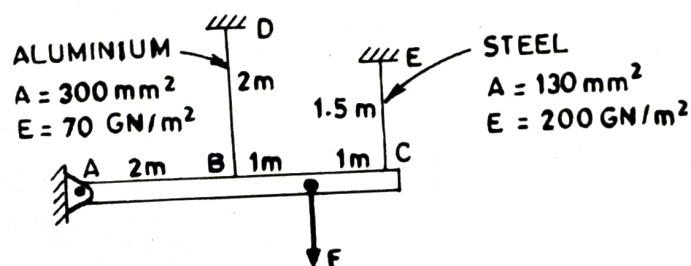

Figure 2
7. Determine the stresses in each wires supporting the rigid bar (see Figure 2) if $F = 20 \text{ kN}$. [07]